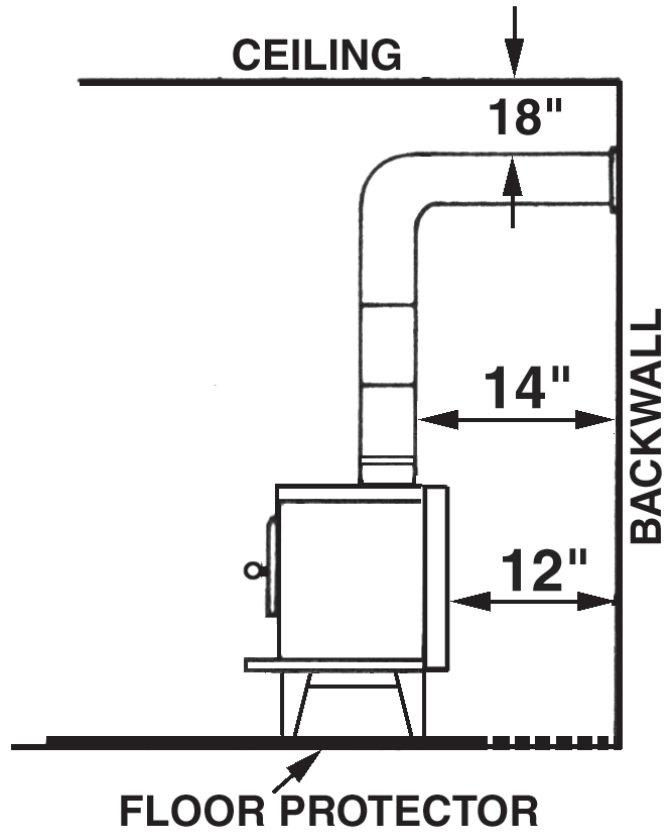

*Fig. 1 – TOP VIEW Minimum Clearance Dimensions from Combustible Surfaces*
10. After properly locating floor protector (fig 1, page 4) to accommodate minimum stove clearances, place stove in position on floor protector.
1. The stove must be placed on solid concrete, solid masonry, or when installed on a combustible floor, on a Underwriters Laboratories Listed floor protector, such as Hy-C or Imperial Model UL 4048BK or equivalent with 0.8 R-factor. (NOTE: to calculate R-value of alternative materials see page 18). The base **must** extend at least 16" beyond the front of the access door, 6" to the sides and 12" to the rear, and must extend under and 2 inches beyond either side of the stove pipe if it is elbowed towards a wall. (See figures 1 & 3 and consult local building codes and fire protection ordinances).
**CAUTION: (FIRE HAZARD) CARPETING AND OTHER COMBUSTIBLE MATERIAL SHALL NOT COVER THE FLOOR PROTECTOR. THESE MATERIALS MUST REMAIN OUTSIDE OF COMBUSTIBLE CLEARANCES, SEE FIG. 1 – 3.**
3. After observing the clearances to combustible materials (figures 1–3), locate your floor protector accordingly (figure 1) and carefully place the stove in your selected location. Install stove pipe, elbows, and thimble as required, utilizing either a recently cleaned and inspected 6" masonry chimney or a 6" i.d. listed chimney.
4. Use 6" round black stove pipe, not galvanized stove pipe. Secure pipe sections with three (3) sheet metal screws in each stove pipe and/or elbow joint to firmly hold the pipe sections together. Do Not connect this stove to any air distribution or duct system.
5. Recheck clearances from the stove, connector stove pipe, and corner clearances using the illustrations in figures 1–3 and your local building codes or fire protection ordinances.